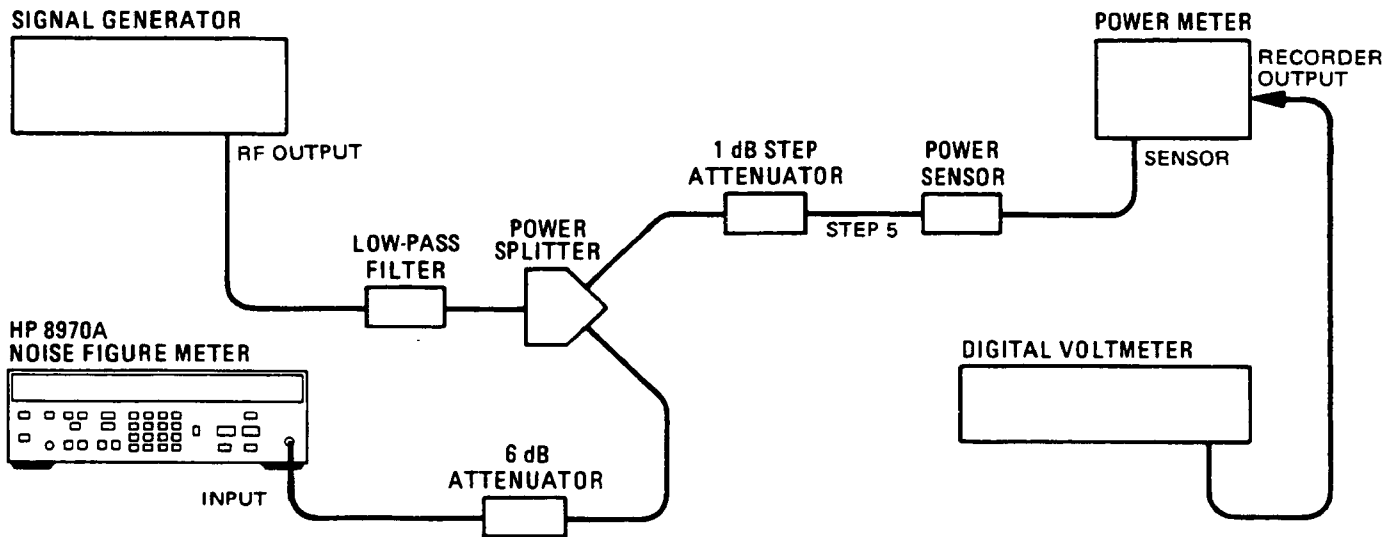

Figure 5-1. Noise Power Detector Adjustment Setup
1. Connect equipment as shown in Figure 5-1, except do not connect the power sensor to the step attenuator.
5. Zero the power meter, and set the 1 dB step attenuator to 10 dB. Connect the power sensor to the 1 dB step attenuator as shown in Figure 5-1.